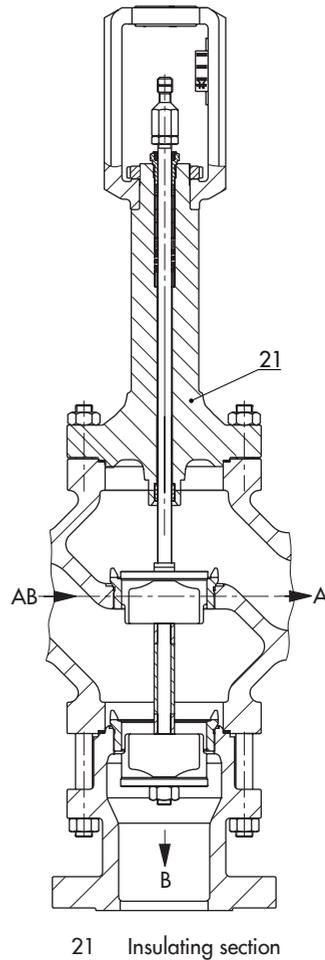

Fig. 11: Diverting valve with insulating section
- Proceed as described in section 7.1. The insulating section (21) is installed instead of the bonnet (2). See Fig. 11.